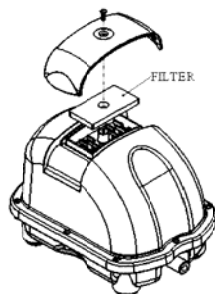

Figure 1
- A. Loosen the screw on top. (As shown in Figure1)